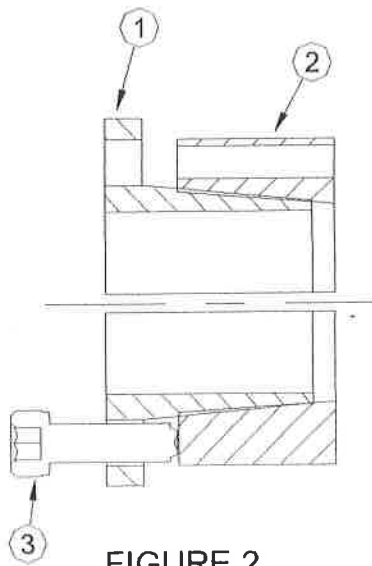

FIGURE 2
- 2B. Loosen all locking screws (Item 3) by a minimum of four (4) turns and transfer at least three (3) screws into push-off threads in order to keep Items 1 and 2 separated during assembly (See Figure 2).
Removal of B-LOC™ Locking Assembly (Refer to Figure 2)